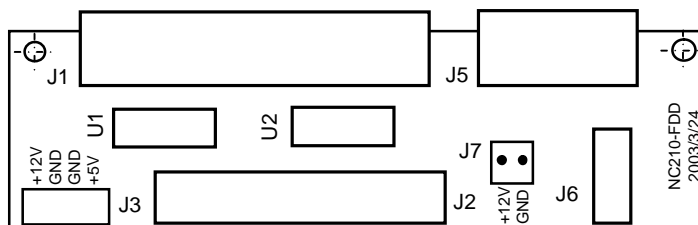

Figure A.3 – Arrangement of the Elements of the NC210-26 Card
11.1.3.1 The arrangement of connectors of the **FDD** connector card NC210-26 is shown in Figure A.3.